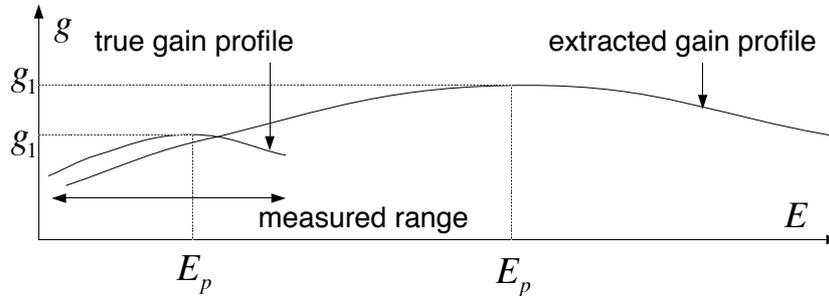

Fig. 4: gain profile
5. Open the file `dfb.new` to see the value of extracted parameters. You find that net gain curvature is negative, and gain peak wavelength is too far from bragg wavelength. It is because that gain is expressed in three parameters, $g = \underline{g}_1 + \underline{g}_2(E - E_p)^2$. When range of measured wavelength (12[nm] in example8) and net gain curvature is small, gain parameters cannot be extracted correctly. But the value of gain at measured wavelength are roughly correct (Fig.4).